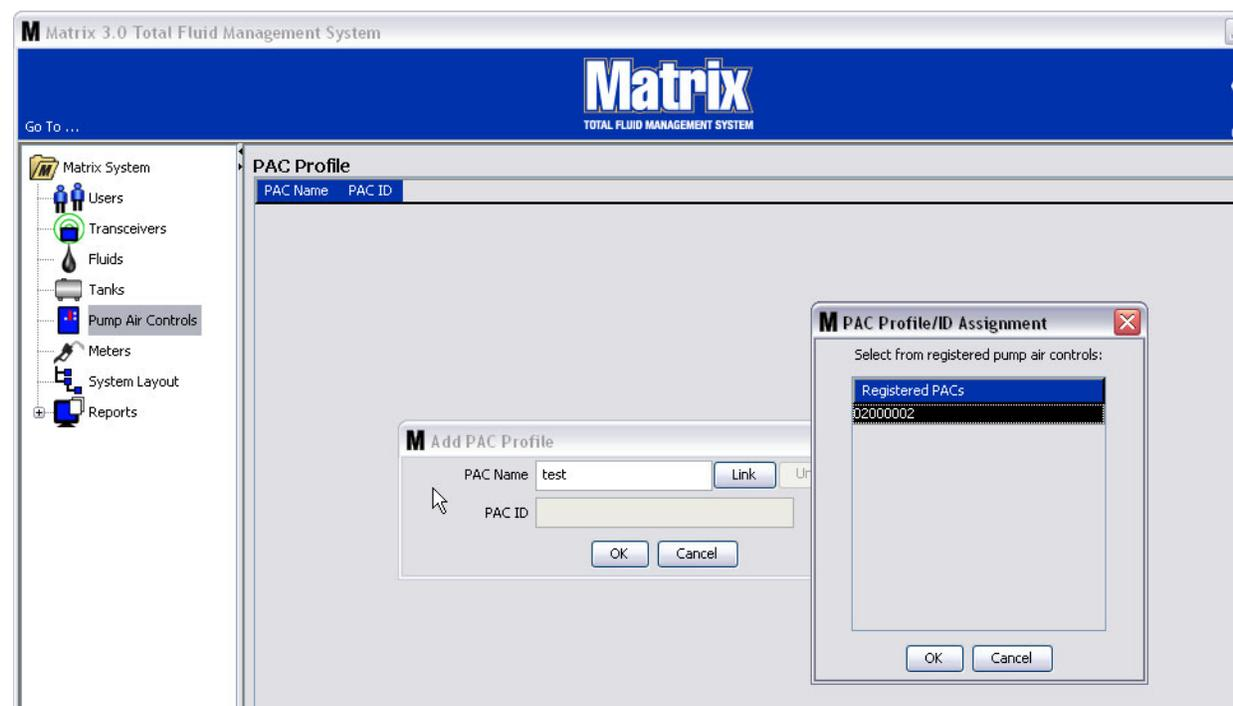

FIG. 81
- After you have named the PAC, click the link button. The Profile/ID Assignment screen shown in FIG. 81 displays. From the list of registered Pump Air Controls, select a PAC from the list. Click OK to close the screen and save the changes. A complete description of the PAC registration procedure is provided in the Pump Air Control instruction manual. Instructions are also provided in the How to Register a Pump Air Control section in Appendix A of this manual on page 107.